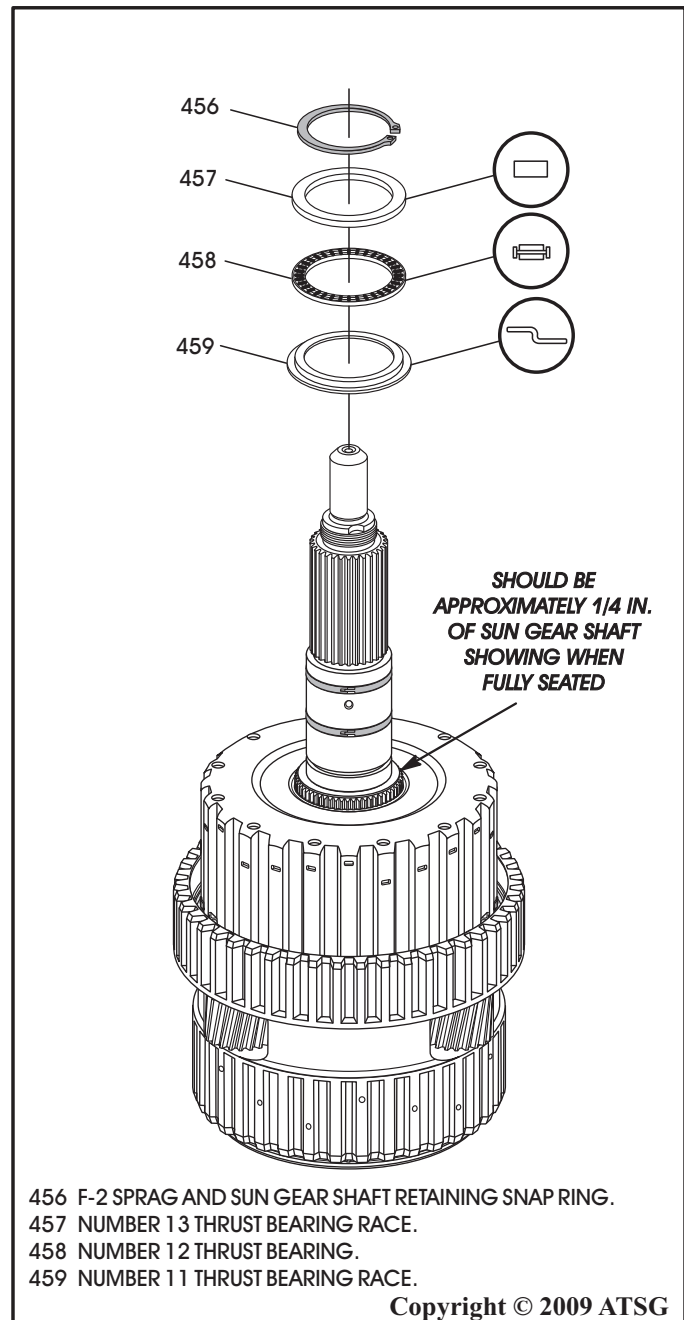

Figure 149
**Note:** *There should be approximately 1/4 inch of sun gear shaft spline showing when fully seated, as shown in Figure 149.*
54. Install the number 11 thrust bearing race, as shown in Figure 149.
55. Install the number 12 thrust bearing, as shown in Figure 149.
56. Install the number 13 thrust bearing race, as shown in Figure 149.
57. Install the sun gear shaft retaining snap ring, as shown in Figure 149.